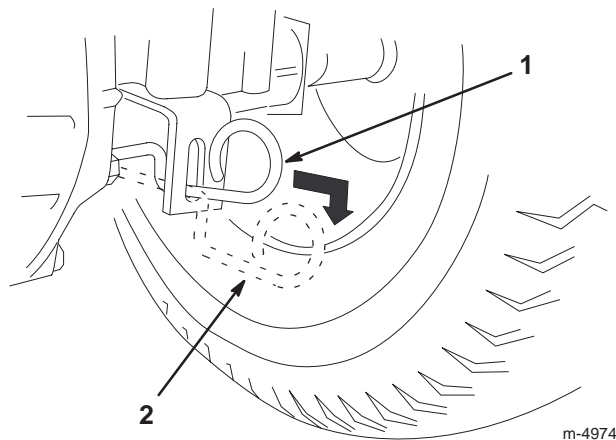

Figure 12
4. Pull the drive control out to the Push position (Fig. 12).
Note: This disengages the drive system and allows the wheels to turn freely (Fig. 12).
Push the drive control in to the Operate position (Fig. 12).